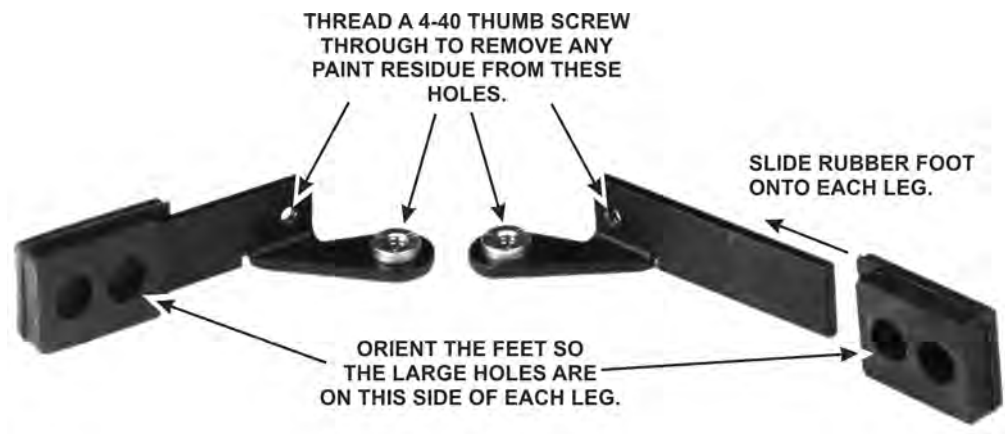

Figure 30. Preparing Tilt Legs for Installation – Part 1.
- Use the black thumb screw to clear any paint from the threaded holes in the tilt legs (see Figure 30).
- Slide the remaining two rubber feet onto the tilt legs as shown in Figure 30. The feet are held in place by friction. Be sure you work the feet all the way onto the legs as shown.